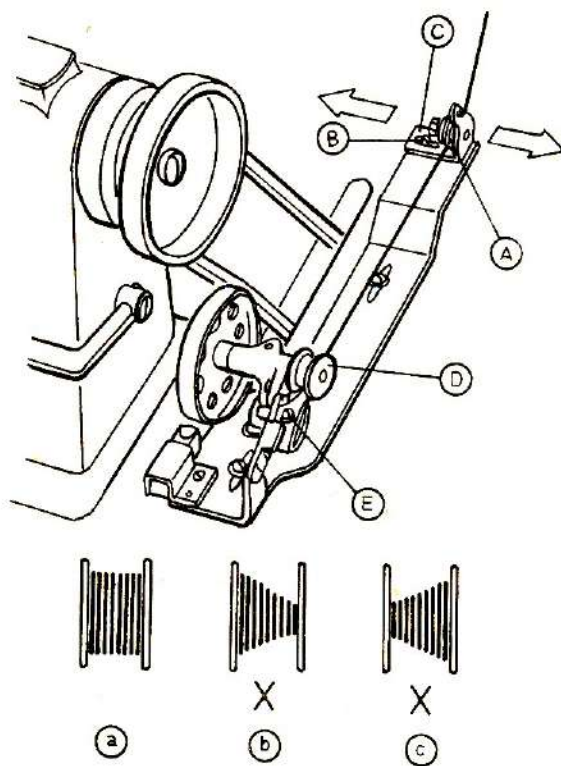

Fig.12
(2) To adjust the bobbin winder (fig 12)
when the thread is wound unevenly as shown in (b) of fig 12, and move it slightly leftwards when the thread is wound unevenly as shown in (c) of fig 12. Retighten the screw when the thread is so wound as shown in (a) of Fig 12.